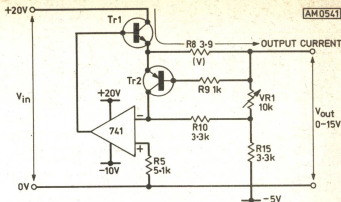

Fig. 4: The current limiting circuitry.
The circuit with the additional components is shown in Fig. 4. A current sampling resistor, R8, monitors the load current. This resistor is between the emitter and base of Tr2 and when the load current produces a sufficient voltage drop across R8, Tr2 turns on causing positive current to flow from the collector of Tr2 to the 'summing junction'. This results in a negative polarity change in the output, ensuring that the output current does not rise to a dangerously high value. Tr2 will turn on when the emitter-base voltage (V) reaches about 0.55V: